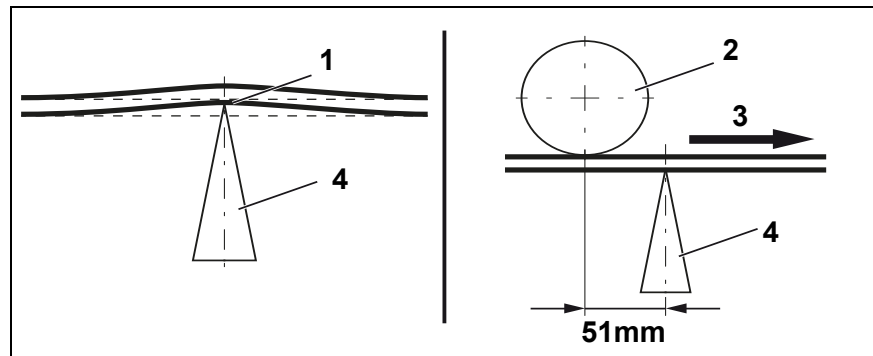

Fig. 23
Figure 23 is an example of a cleaner.
1. If the secondary cleaner (4, Fig. 23) raises the conveyor belt (1, Fig. 23), then a pressure roller (2, Fig. 23) must be installed above the contact point between the blade and conveyor belt at a clearance of 51 mm against the running direction (3, Fig. 23) to support the conveyor belt.